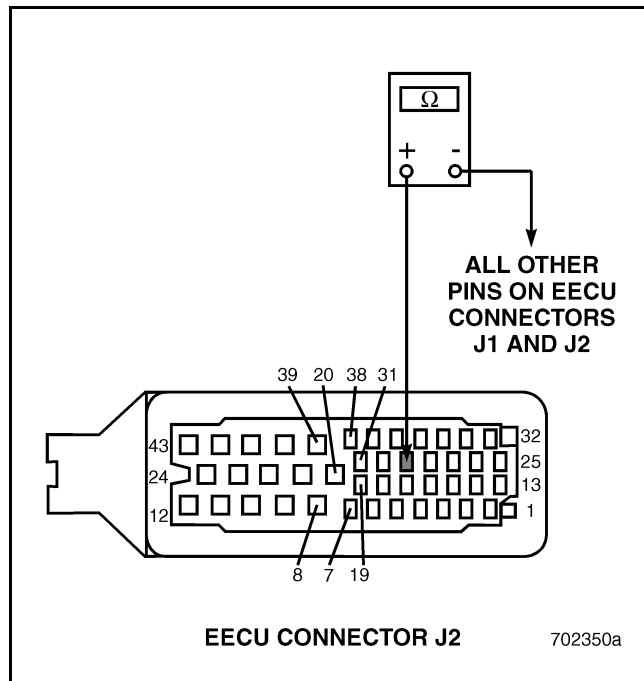

Figure 76
4. Check for continuity between EECU harness connector J2 pin 29 and all other pins on EECU connectors J1 and J2 (see Figure 76).